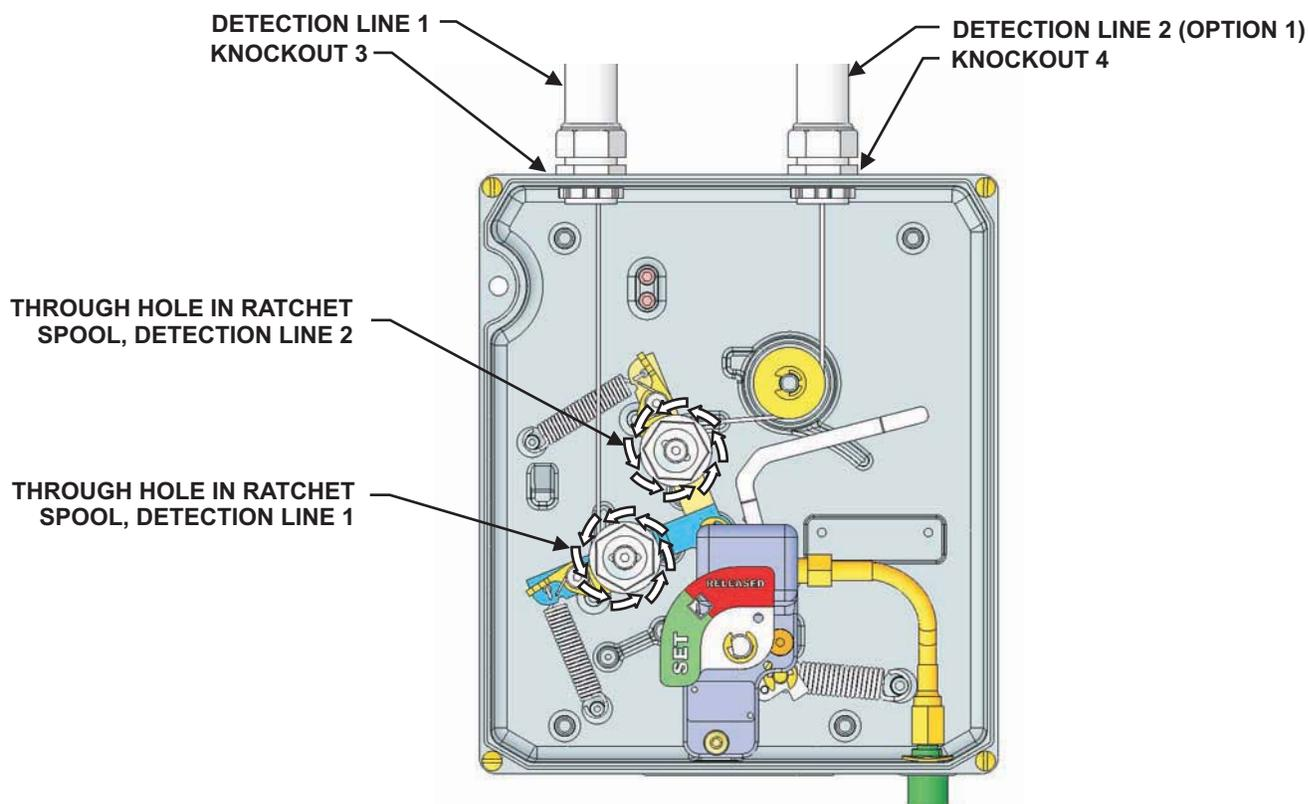

Figure 5-7. Setting the Detection Lines
6. Set the detection beams by turning the ratchet wheels in the direction of the arrows (see Figure 5-7).